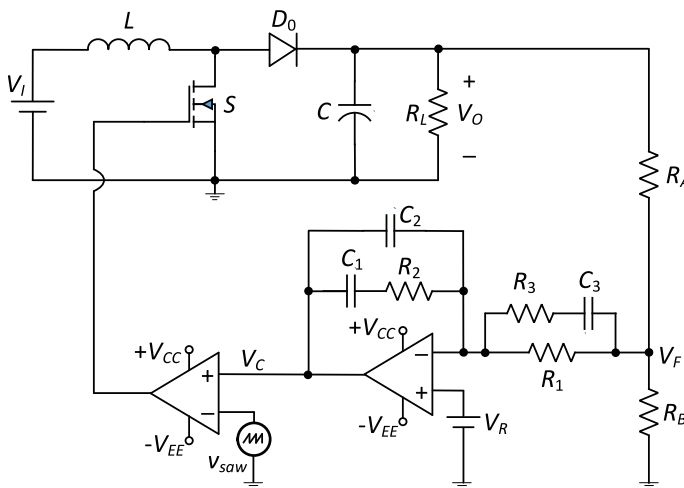

Figure 41.1 Circuit diagram of the voltage-mode controlled dc–dc boost converter.
1. Construct the circuit of the closed-loop boost dc–dc converter as shown in Figure 41.1 on the circuit simulator. Enter the values of all the components present in the feedback, controller, pulse-width modulator, and the boost converter stages.
Provide a detailed design methodology for the integral-double-lead controller shown in Fig. 41.1 for the boost converter in CCM.